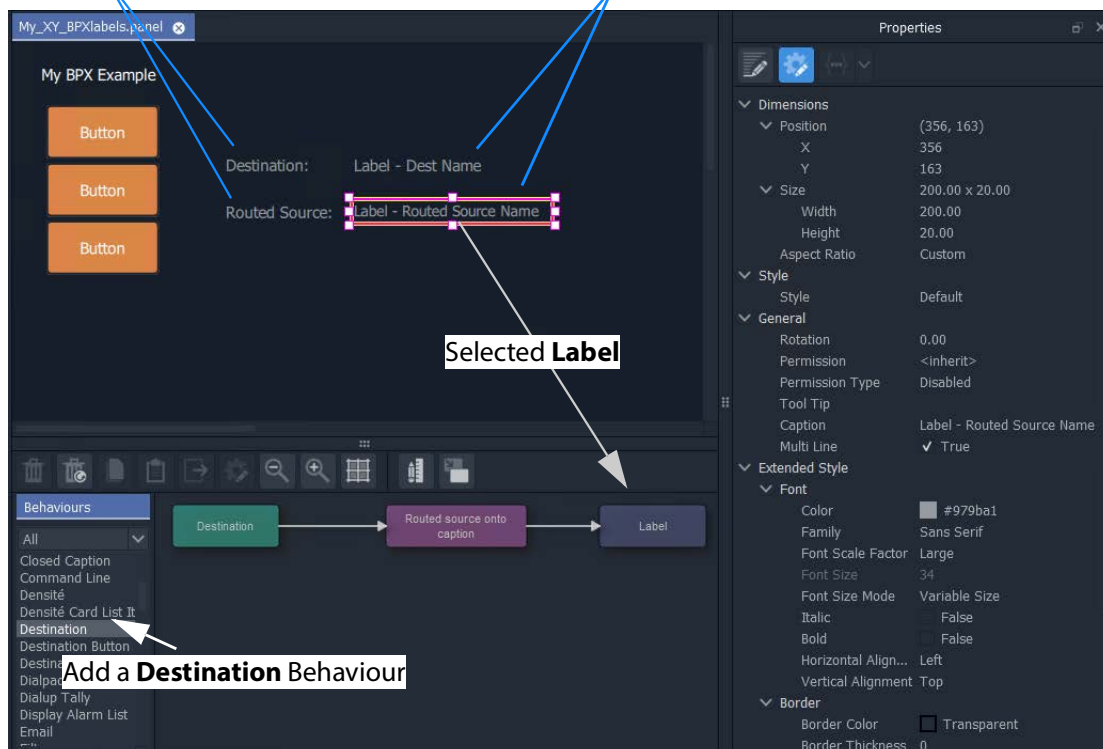

Fig. 13-55: Adding Labels
- 1 Add four **Label** widgets to the BPX panel. See Figure 13-55.
- 2 Set two labels to have fixed 'Caption' properties. See Figure 13-55.
- 4 Select one of the **Labels**. See Figure 13-55.
- 5 Add a **Destination** Behaviour. See Figure 13-55.